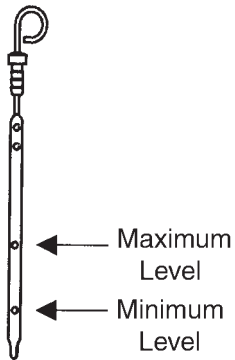

Figure 5
1. Check the oil level in the crankcase with the dipstick (Fig. 5). The oil level must be in the waffled area on the stick. Never allow the level to go below this area. Follow the lubrication recommendations above.